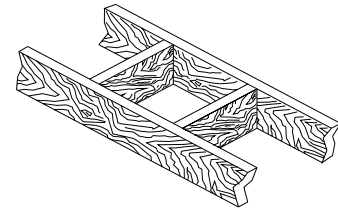

Figure 27
1. Cut and frame the holes in the ceiling, floor and roof where the chimney will pass (see figure 27). Use a plumb bob to line up the centre of the holes. The sizes are indicated in table 1 for the floor and ceiling holes and table 2 (page 28) for the roof holes.